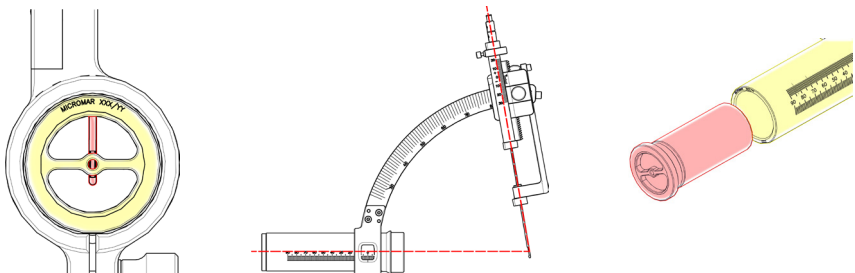

Figure 58
9. On the graduated tube, use the sight to check the isocenter according to the cannula model to be used (Figure 58).